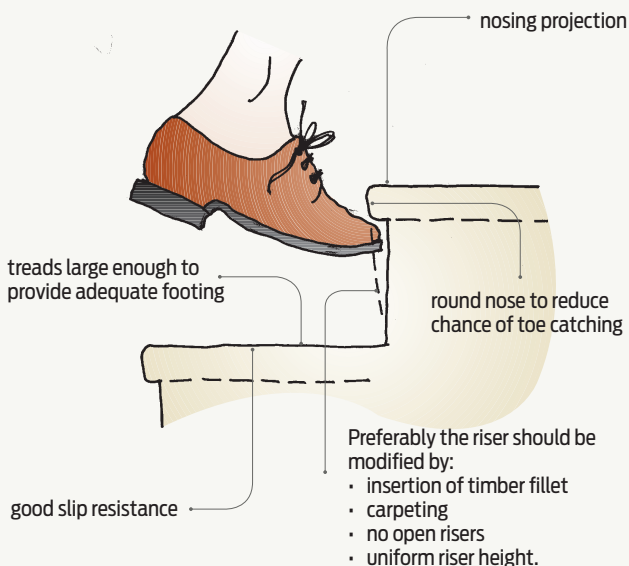

Figure 6 Principles of step design.
- either no tread nosings or minimal projections (see Figure 6)